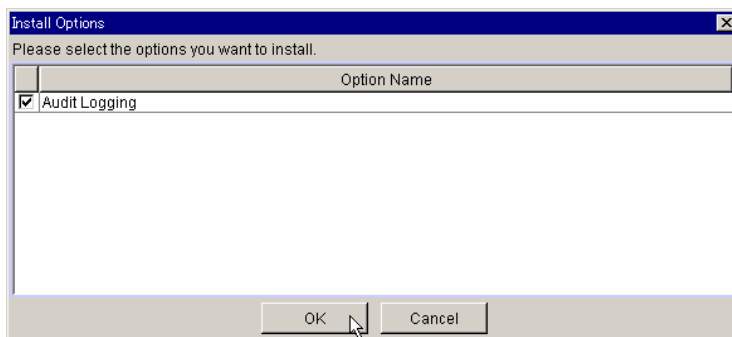

Figure 4.3 Install Options Confirmation Message (1)
6. The Install Options Confirmation Message (1) displays (see Figure 4.3). Verify that the option name(s) are correct, and then click **OK**.